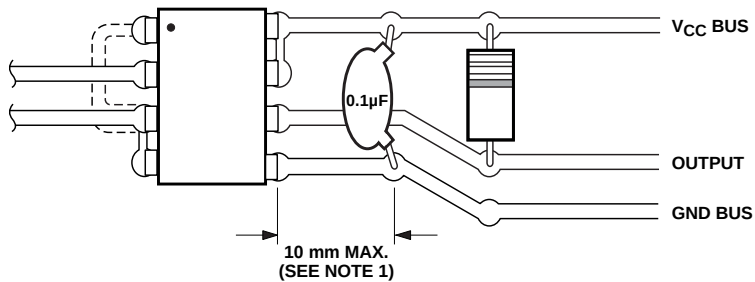

Figure 15. Recommended printed circuit board layout.
1. Bypassing of the power supply line is required with a $0.1\ \mu\text{F}$ ceramic disc capacitor adjacent to each optocoupler, as illustrated in Figure 15. Total lead length between both ends of the capacitor and the isolator pins should not exceed 10 mm.
assumes that good board layout procedures were followed to reduce the effective input/output capacitance as shown in Figure 15.